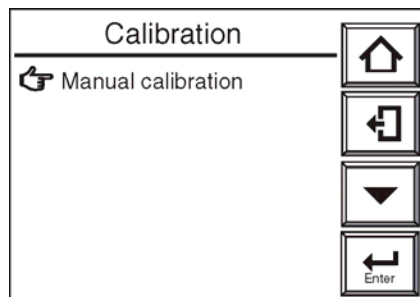

Figure 7-23 Calibration Display
1. Select the Setup key in the basic panel display screen to display the Execution/Setup display screen. Then select Calibration. The Calibration execution display screen shown in Figure 7-23 appears.